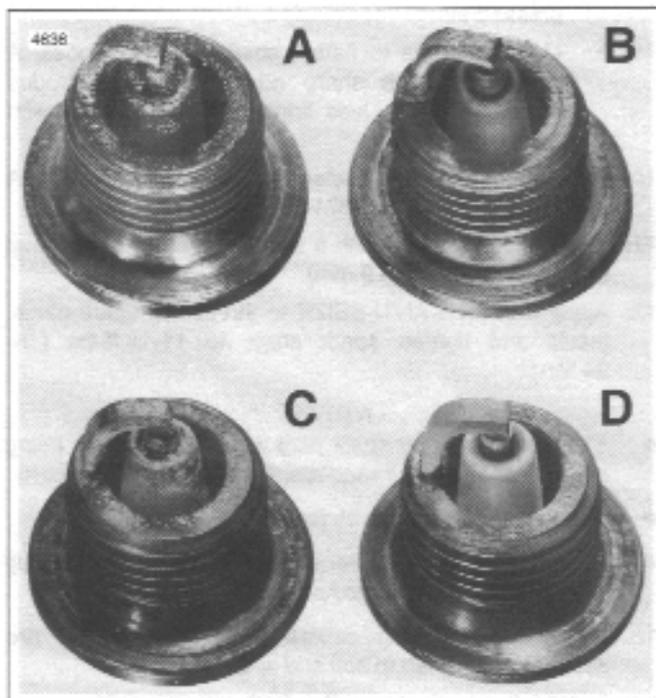

Figure 1-44. Typical Spark Plug Deposits
8. See Figure 1-44. Compare your observations of the plug deposits with the descriptions provided below.